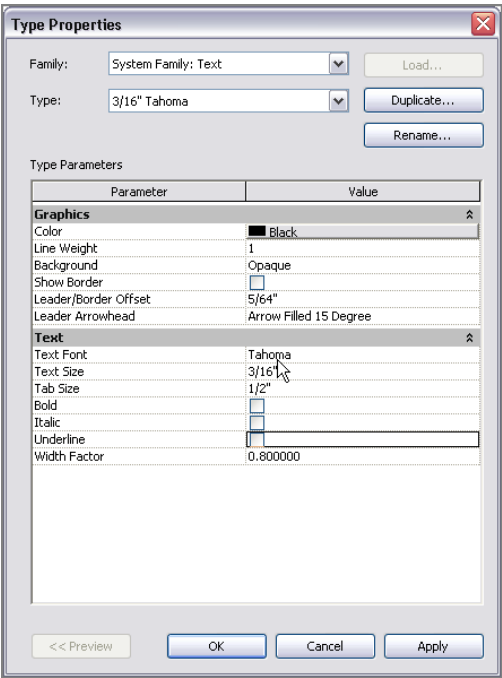

FIGURE 5.54: Changing the text values in the Type Properties dialog box
- 6. Change the Text Size setting to 3/16" (3.5mm), as shown in Figure 5.54.